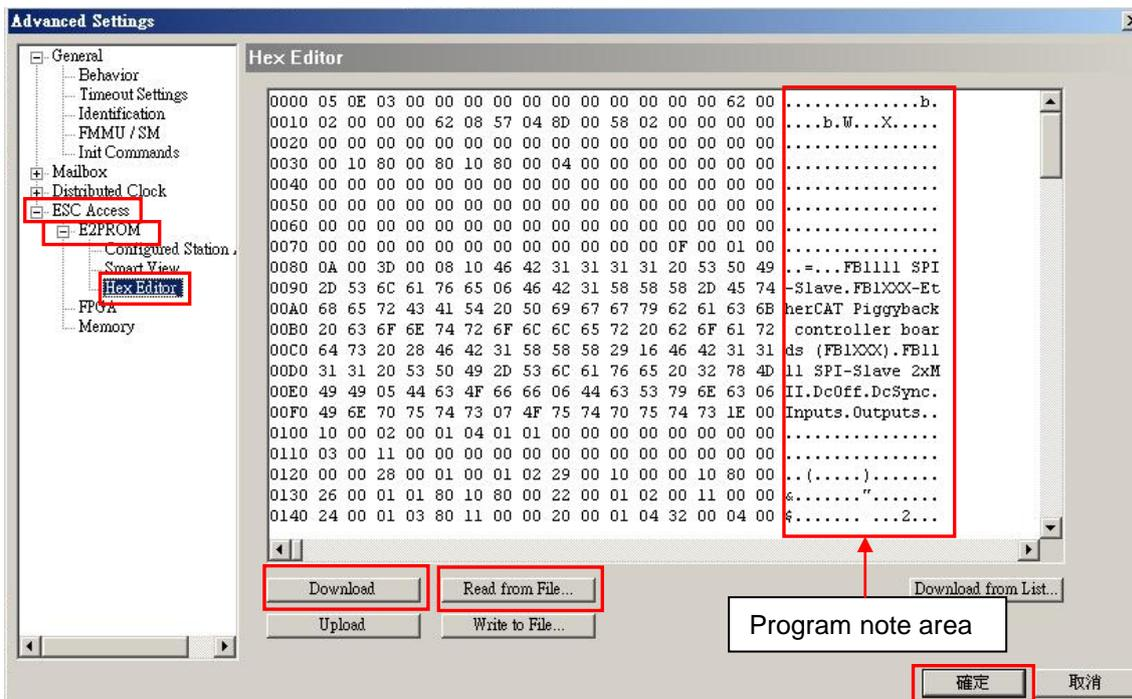

Fig. 5-20
- (3) Select “E2PROM” in “ESC Access” at the left side of “Advanced Settings” window. After clicking “Hex Editor”, it can be found that “FB1111 SPI-Slave”, unknown device, or blank content is on the program note area at the right-side window, as shown in Fig. 5-20.
(4) Power cycle drive to complete EEPROM update.